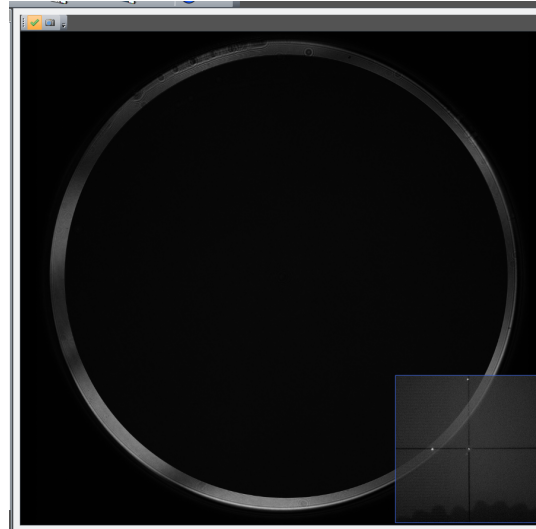

Figure 7: Diagram of fringe pattern in null position
8. Switch to the fringe mode and make sure it is null pattern as illustrated in Figure 7: